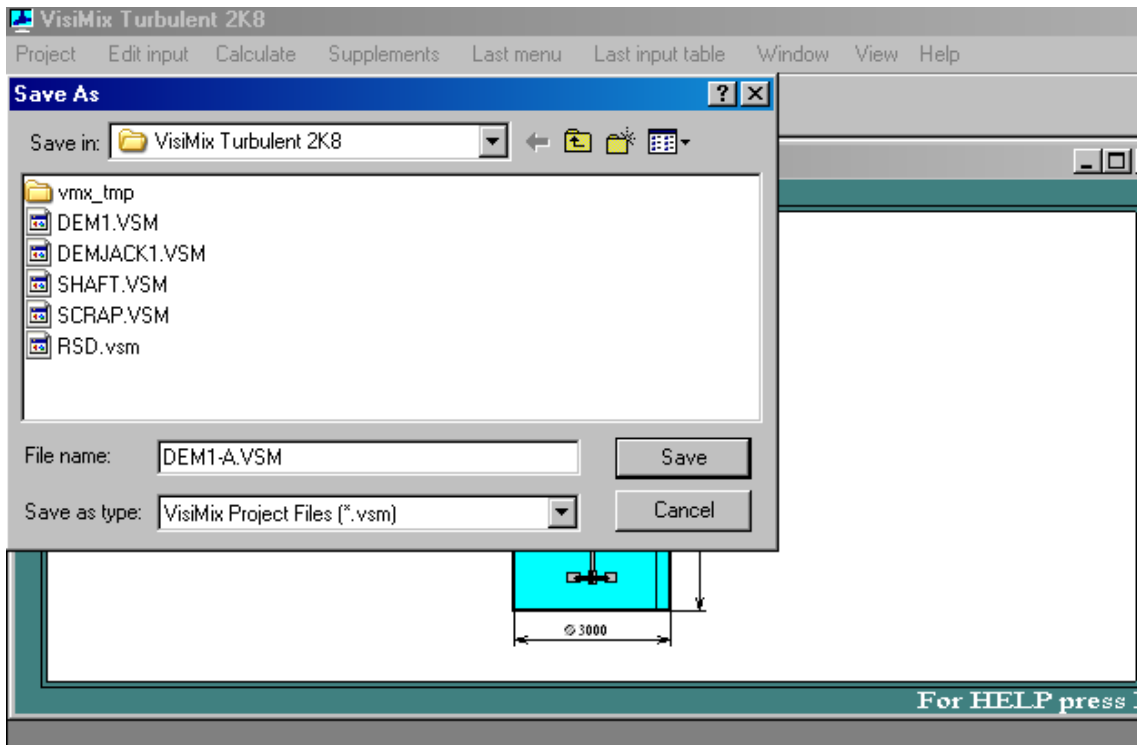

Figure 3.1.
- 3.1. Create a new project and perform VisiMix calculations as usual. Create and save the corresponding report, for example – using **Turbulent** option (Figures 3.1, 3.2).